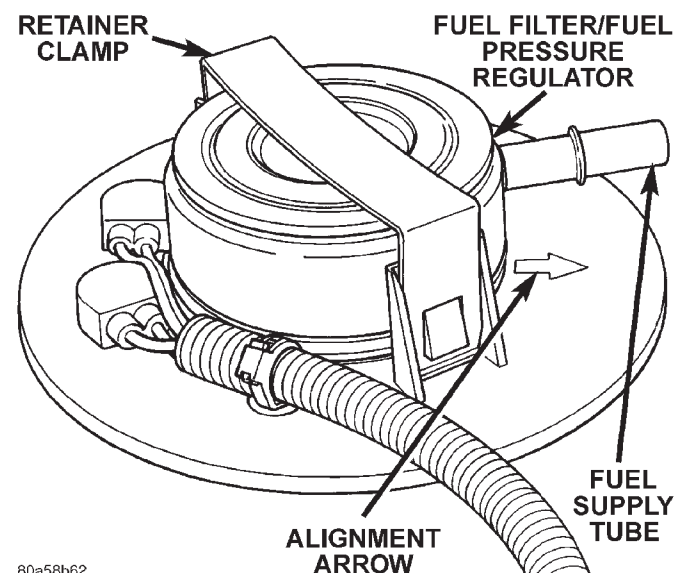
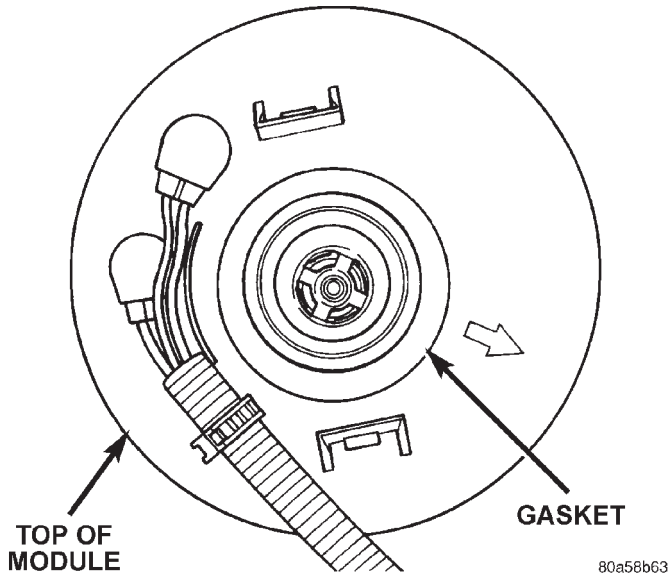

Fig. 22 Fuel Filter/Fuel Pressure Regulator
Fig. 23 Fuel Filter/Fuel Pressure Regulator Gasket
- (1) Remove fuel tank. Refer to Fuel Tank Removal/Installation.
- (2) Clean area around filter/regulator.
- (3) Disconnect fuel line at filter/regulator. Refer to Quick-Connect Fittings in this group for procedures.
- (4) Remove retainer clamp from top of filter/regulator (Fig. 22). Clamp snaps to tabs on pump module. Discard old clamp.
- (5) Pry filter/regulator from top of pump module with 2 screwdrivers. Unit is snapped into module.
- (6) Discard gasket below filter/regulator (Fig. 23).
- (1) Clean recessed area in pump module where filter/regulator is to be installed.
- (2) Obtain new filter/regulator (two new o-rings should already be installed).
- (3) Apply a small amount of clean engine oil to o-rings. **Do not install o-rings separately into fuel pump module. They will be damaged when installing filter/regulator.**
- (4) Install new gasket to top of fuel pump module.
- (5) Press new filter/regulator into top of pump module until it snaps into position (a positive click must be heard or felt).
(6) The molded arrow (Fig. 22) on top of fuel pump module should be pointed towards front of vehicle (12 o'clock position).
(7) Rotate filter/regulator until fuel supply tube (fitting) is pointed to 10 o'clock position.
(8) Install new retainer clamp (clamp snaps over top of filter/regulator and locks to flanges on pump module).
(9) Connect fuel line at filter/regulator. Refer to Quick-Connect Fittings in this group for procedures.
(10) Install fuel tank. Refer to Fuel Tank Removal/Installation.
- (1) Using a new gasket, position fuel pump module into opening in fuel tank.
- (2) Position locknut over top of fuel pump module.
- (3) Rotate module until arrow (Fig. 22) is pointed toward front of vehicle (12 o'clock position). This step must be done to prevent float/float rod assembly from contacting sides of fuel tank.
- (4) Install Special Tool 6856 to locknut.
- (5) Tighten locknut to 62 N·m (45 ft. lbs.) torque.
- (6) Rotate fuel filter/fuel pressure regulator until its fitting is pointed to 10 o'clock position.
- (7) Install fuel tank. Refer to Fuel Tank Installation in this section.